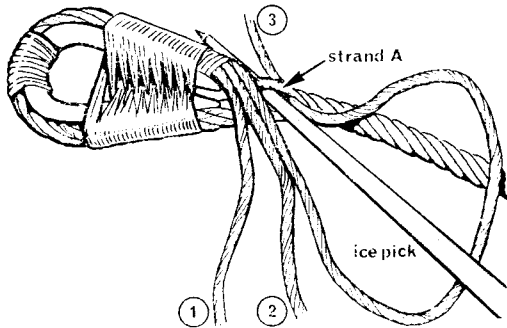

Fig 9.6 Splicing a Hard Eye (2)
- Lever strand A clear of the other standing part strands by inserting the point of an ice pick and pushing it under the strand against the lay (Fig 9.6). Care must be taken not to tear or prize out the jute heart of the standing part.